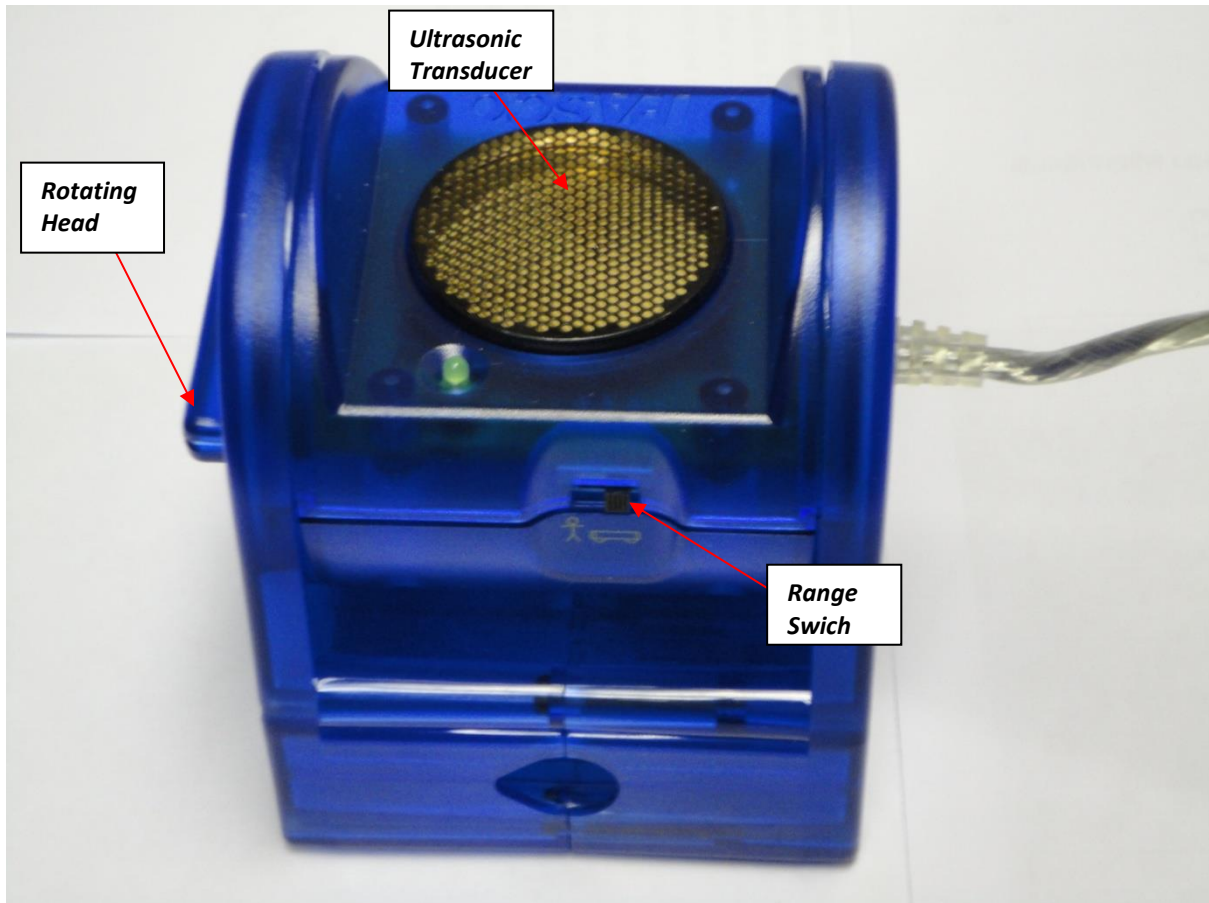

Figure 3
2. Make sure the motion sensor is connected to a computer through the USB interface, and its range switch is set to work with the  (short range) option (see Figure 3).
10. You can adjust the scales of your graph to get the best display by clicking on the **Settings** button (  ) and choosing the tab **Axis Settings** in it. Then type the appropriate minimum and maximum values for **position**. For example, since the data in Figure 3 is between 0.43 and 0.47 the appropriate minimum and maximum values have been chosen to be 0.35 and 0.55. Click **OK**.